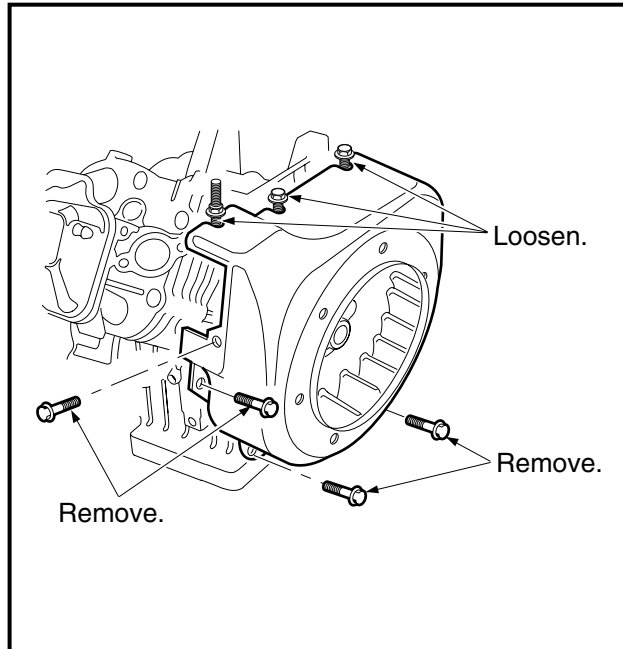

Figure 13-62 Flywheel Housing
1. Loosen three screws and remove the remaining four screws attaching the flywheel housing as shown, then remove the housing (**Figure 13-62, Page 13-32**).
3. Hold the flywheel (4), **not the fan** (7), with a strap wrench (5) and, using a 25 mm socket, remove the flywheel nut (and flat washer) by turning it counterclockwise (**Figure 13-62, Page 13-32**). **See following CAUTION.**